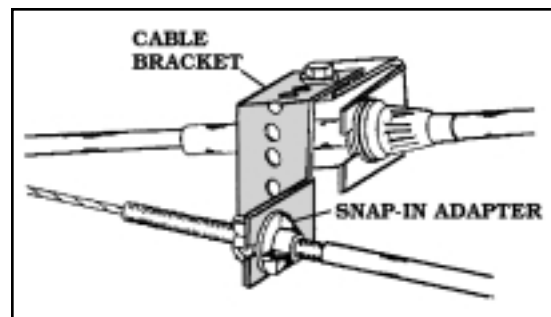
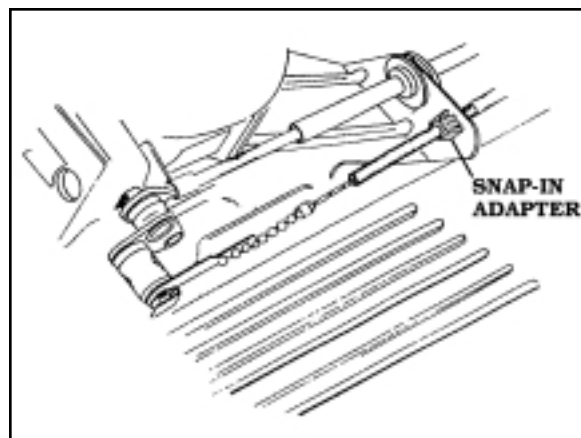

FIGURE 22
FIGURE 23
3. THE **SNAP-IN ADAPTER** SNAPS INTO THE SQUARE HOLE OF THE **CABLE BRACKET** **FIGURE 22** OR SNAPS INTO AN EXISTING SQUARE HOLE ON THE VEHICLE (COMMON ON **GM™ VEHICLES**). **FIGURE 23**